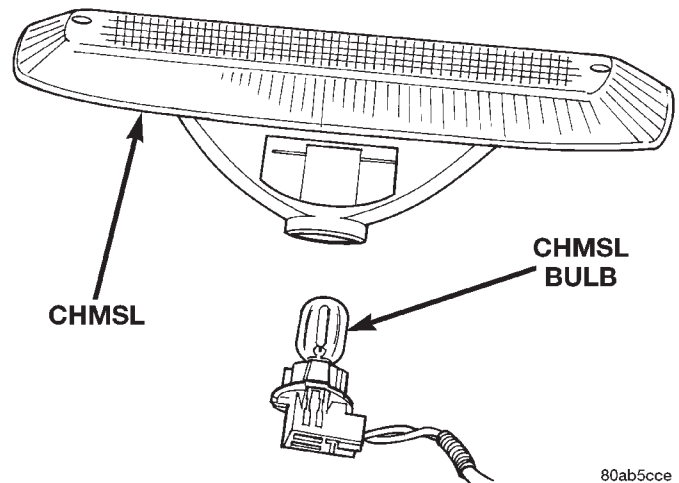

Fig. 2 Center High Mounted Stop Lamp
- (3) Install the lamp socket in the lamp housing (Fig. 2).
- (4) Install the lamp housing in the rear liftgate and install the retaining screws.